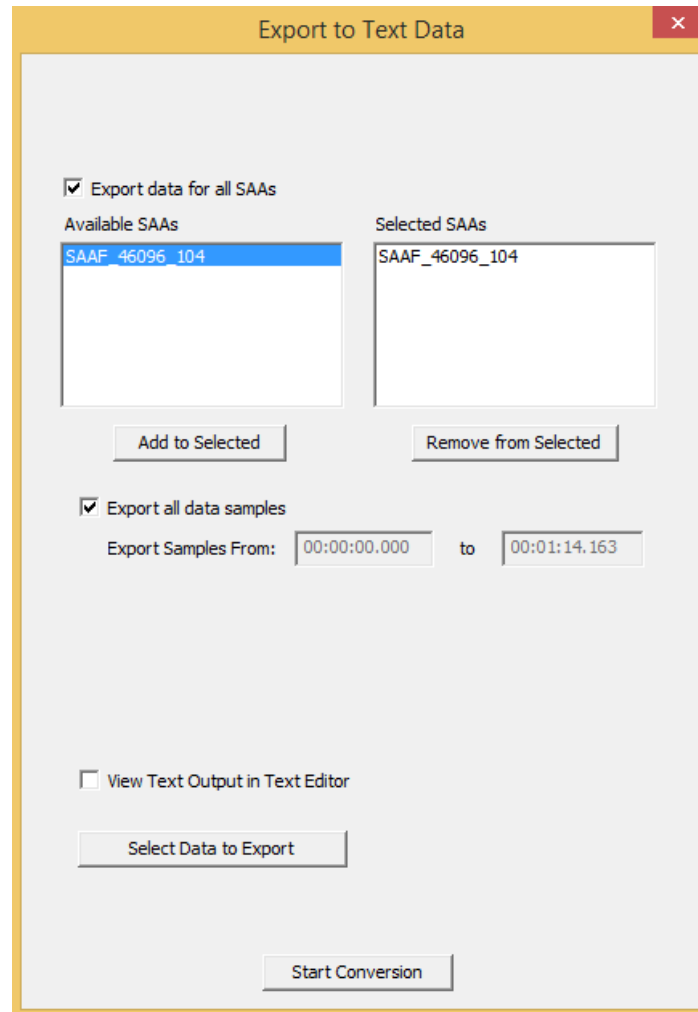

Figure 6.29: 'Export to Text Data' window.
3. The 'Export to Text Data' window will open, see **Figure 6.29**.